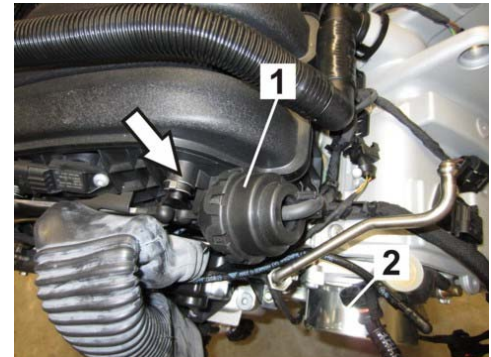

Figure 1
- 2 Check the area on the vacuum unit ⇒ *Figure 1-1-* for the intake-air distributor switching mechanism next to the vacuum pump ⇒ *Figure 1-2-* for traces of leaking engine oil ⇒ *Figure 1-arrow-*.